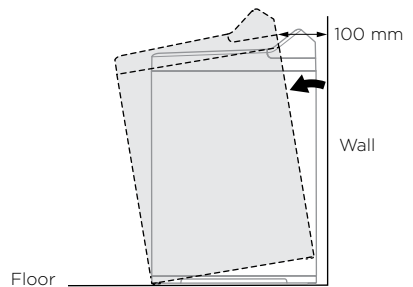
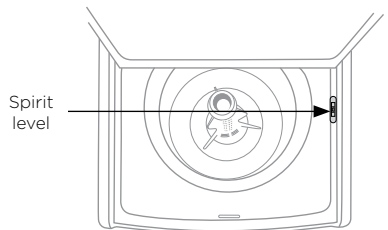

Fig.2 Tilt washer forward
Fig.3 Levelling from front to back
- ③ With the lid closed, tilt the washer forward away from the wall approximately 100 mm (Fig.2), the self-adjusting feet will release. Gently lower the washer back down.
- ④ Open the lid, place the spirit level at either the right hand or left hand side of the top deck. Level the washer from front to back using the front feet only (Fig.3), winding both feet in or out equally. Tilt the washer forward again and lower back down (Fig.2).